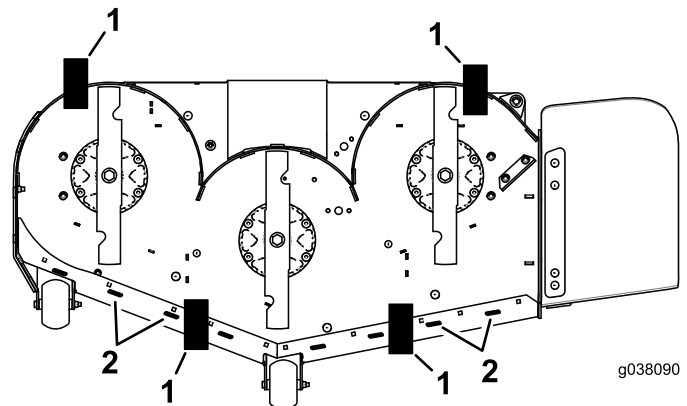

Figure 89
- Place 2 blocks (see Block Height and Rake Table) under the rear edge of the cutting deck skirt; 1 on each side of the cutting deck (Figure 89).